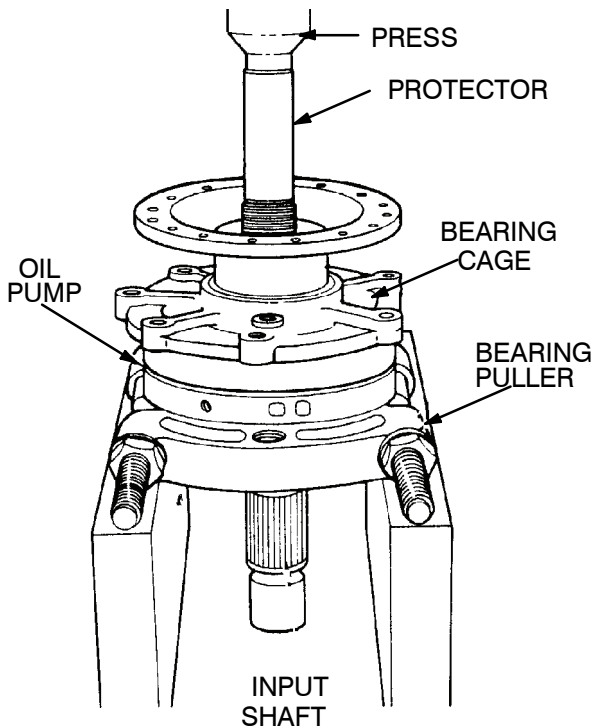

Figure 24. Separating the Input Shaft From the Bearing Cage.
- (b) Put the assembly on a press so that the assembly rests on the puller. Figure 24.
- (c) Put a protector on top of the threaded part of the shaft. Press the input shaft from the assembly. Remove the bearing puller. Figure 24.